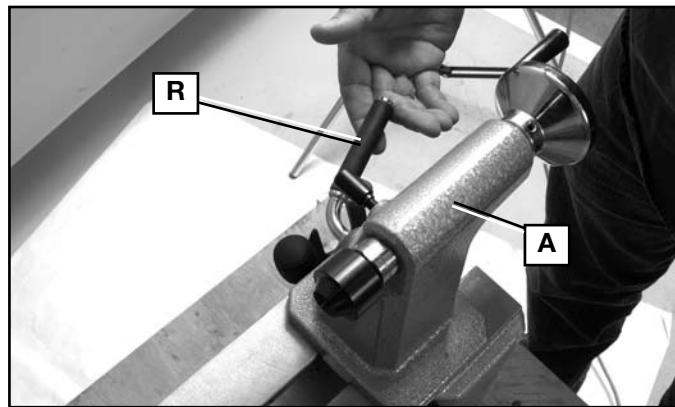
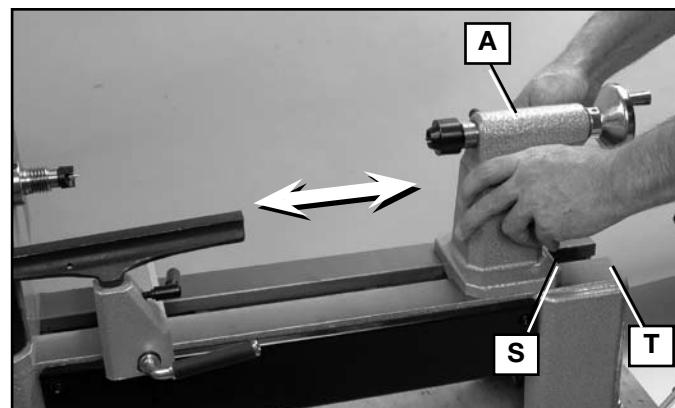

Fig. 10
Fig. 11
To adjust the position of the tailstock (A), loosen tailstock locking lever (R) by lifting. Slide tailstock (A) along the bed (Fig. 11) into the desired location. Tighten tailstock locking lever (R) Fig. 10 by pressing downward to lock in place.
**WARNING:** To reduce the risk of injury, don't position edge of tailstock (S) Fig. 11 beyond the edge of the lathe bed (T).
To remove the tailstock (A) Fig. 10, unlock the tailstock locking lever (R) and slide it off the end of the lathe bed.